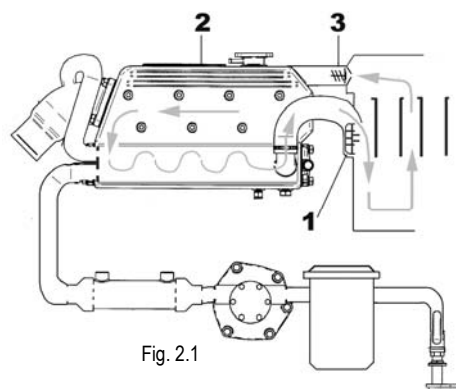

Fig. 2.1
2.2.1 “FRESHWATER” COOLING CIRCUIT (Fig. 2.1)